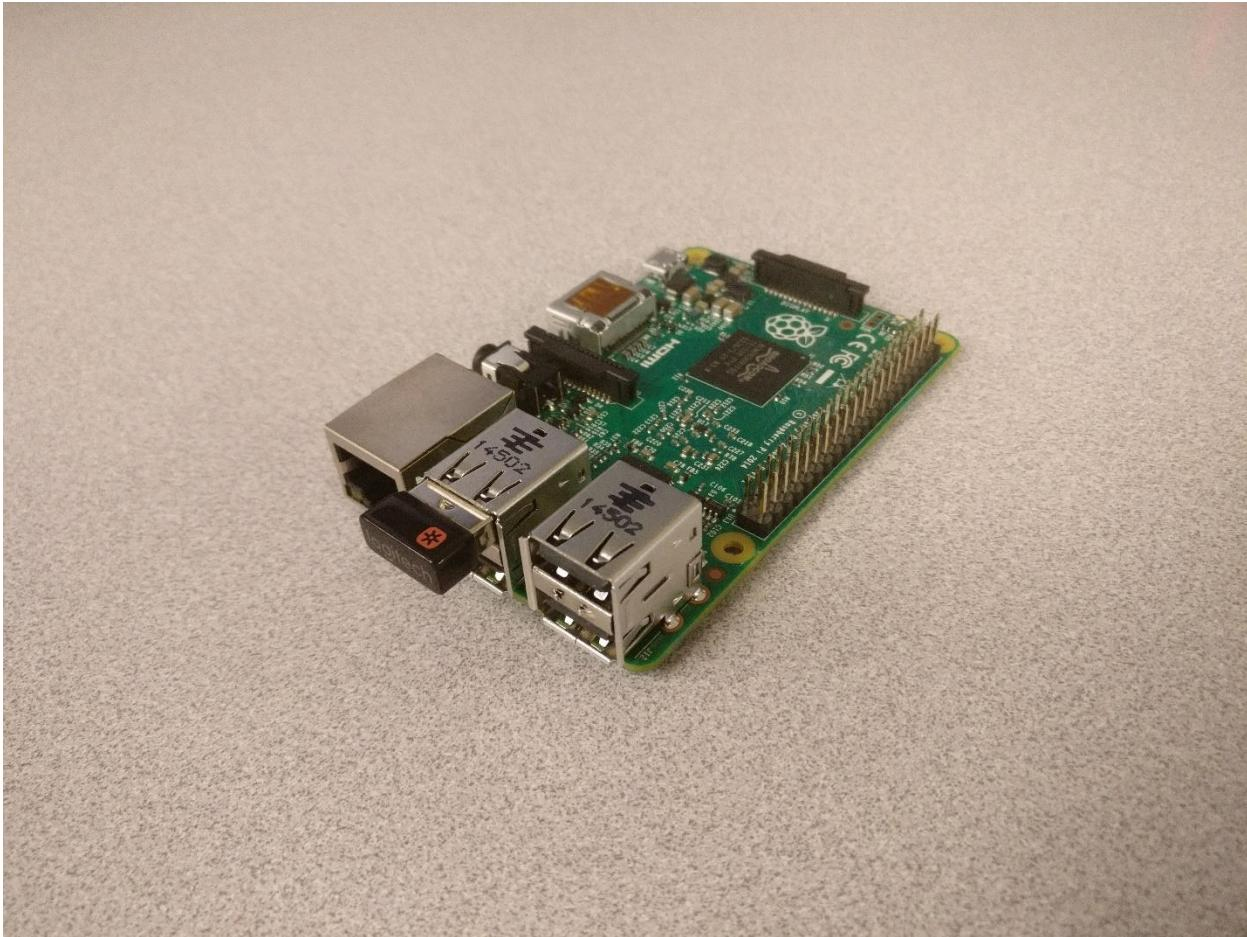

Figure 11-1 – Wireless USB dongle plugged into USB port on Raspberry Pi 2B
1. Plug the keyboard and mouse into the Raspberry PI's USB ports, as shown in Figure 11-1.
4. Plug the Raspberry Pi's DC power adapter in and connect the Micro-B USB end into the Raspberry Pi. Refer to Figure 11-1 for an example of what the Raspberry Pi should look like.